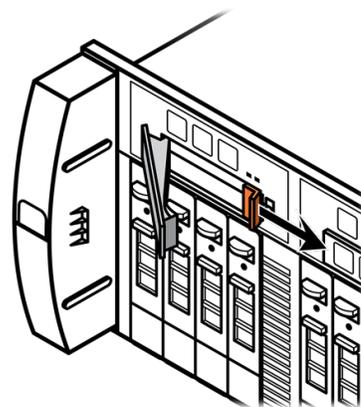

Figure 8-6. Pressing the NVRAM Module Latch
Press the NVRAM module latch to extend the handle. See Figure 8-6.
1. Press the latch on the new NVRAM module (as shown on Figure 8-6) to extend the handle.